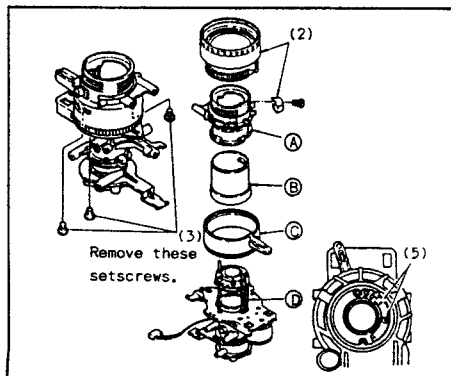

Fig. II-26
2-2-9 Replacement of Zoom Ring (Refer to Fig. II-26)
- (1) Attach the cam ring and the zoom ring to the fixed lens barrel.
- * Note: Engage the cam ring with the part (E) of the zoom ring.
- (2) Set the zoom lever to position (H). Mount the fixed lens barrel straight gradually.
* Note: Align the zoom shafts (F) x 3 with the positioning holes (G) on the fixed lens barrel.
- (3) Set the zoom ring to the telephoto end position. Attach the variator retaining plate spring. (See Fig. II-26 (5))
- (4) While taking care not to allow the fixed lens barrel to come off, turn the focus side down.
- (5) Secure the fixed lens barrel to the relay holder with three setscrews.
- (6) Mount the focus lens a'ssy. on the fixed lens barrel.
- (7) Attach the N stopper to the fixed lens barrel.
- (8) Install the AF block, AF C.B.A., AF motor and PZ motor.
- (9) Check each section if operates properly.
- (10) Perform AF distance measuring adjustment. If deviated, adjust it.